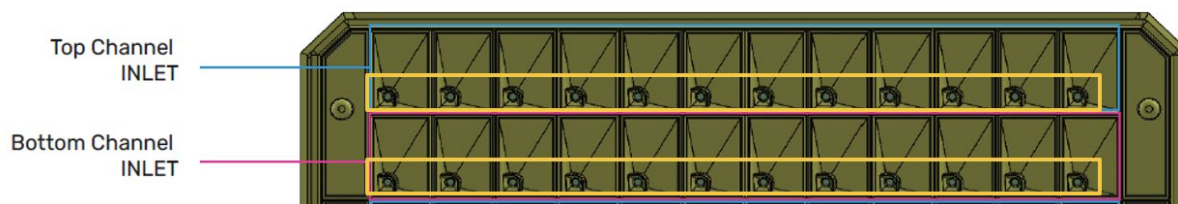

Figure 17. Location of reservoir vias.
- e. See Figure 17 for locations of reservoir vias.